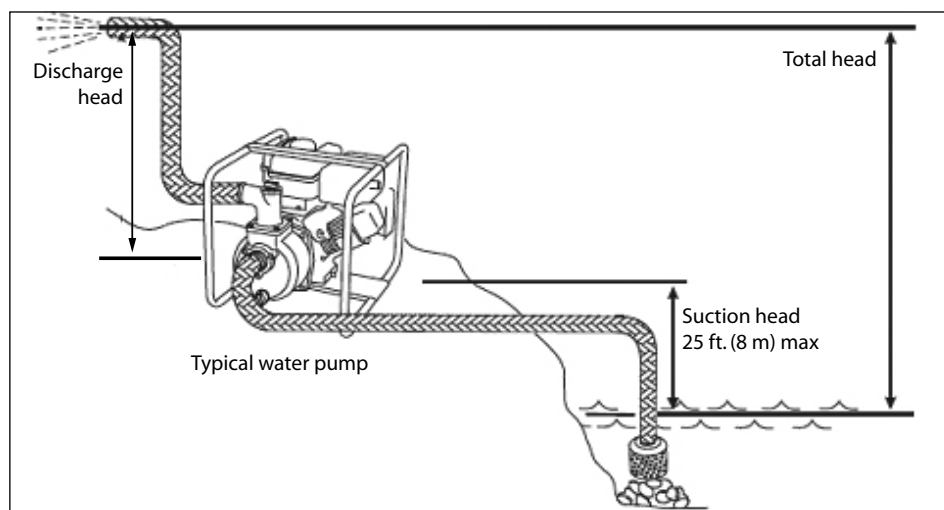

FIGURE 1
Use this pump for water only, where the vertical suction head from the water level is 25 ft. (8m) or less. Head refers to the height of a column of water that can be delivered by the discharge of the pump (Figure 1). Suction head (or suction lift) is the vertical distance between the center of the pump and the surface of the liquid on the suction side of the pump. Discharge head is the vertical distance between the pump's discharge port and the point of discharge. Total head is
- a) **LOCATION:** For permanent installation, put the pump in a clean, dry, and ventilated place (Figure 1).